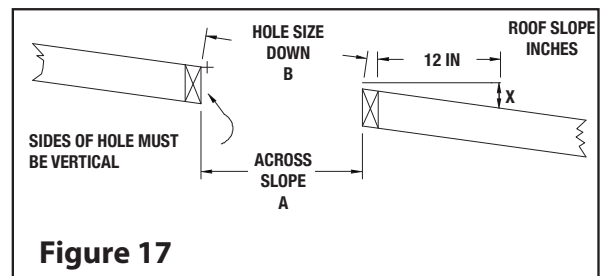

Figure 17
Step 1: Locate the chimney in a convenient location as near as possible to the appliance outlet. Cut and frame an opening in the roof for the support (see Table 5). The sides of this hole must be vertical (see Figure 17).